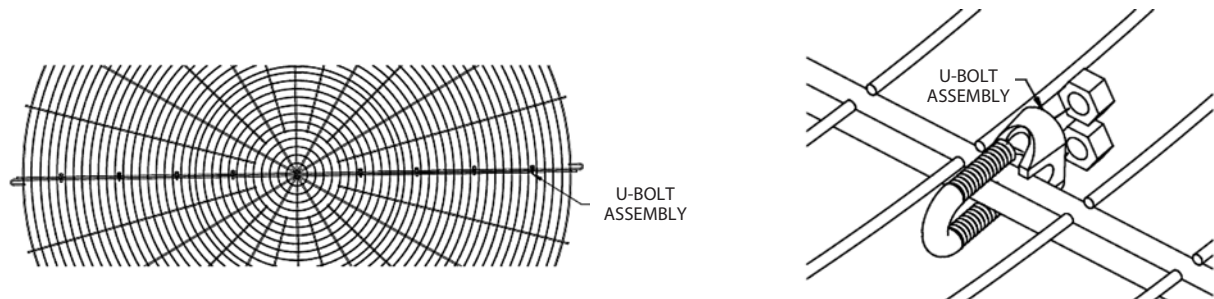

Figure 24 - U-Bolt Assembly Spacing & Arrangement
3. Join the two screen halves with "U" bolts, as shown in Figure 24.